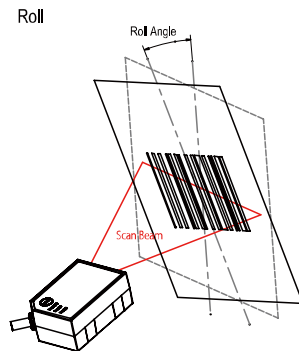

Figure 2 Skew, Pitch and Roll Angle Illustration
- When placing the barcode label, one must be careful not to over tilt, skew and/or pitch the barcode (Refer to figure 2)